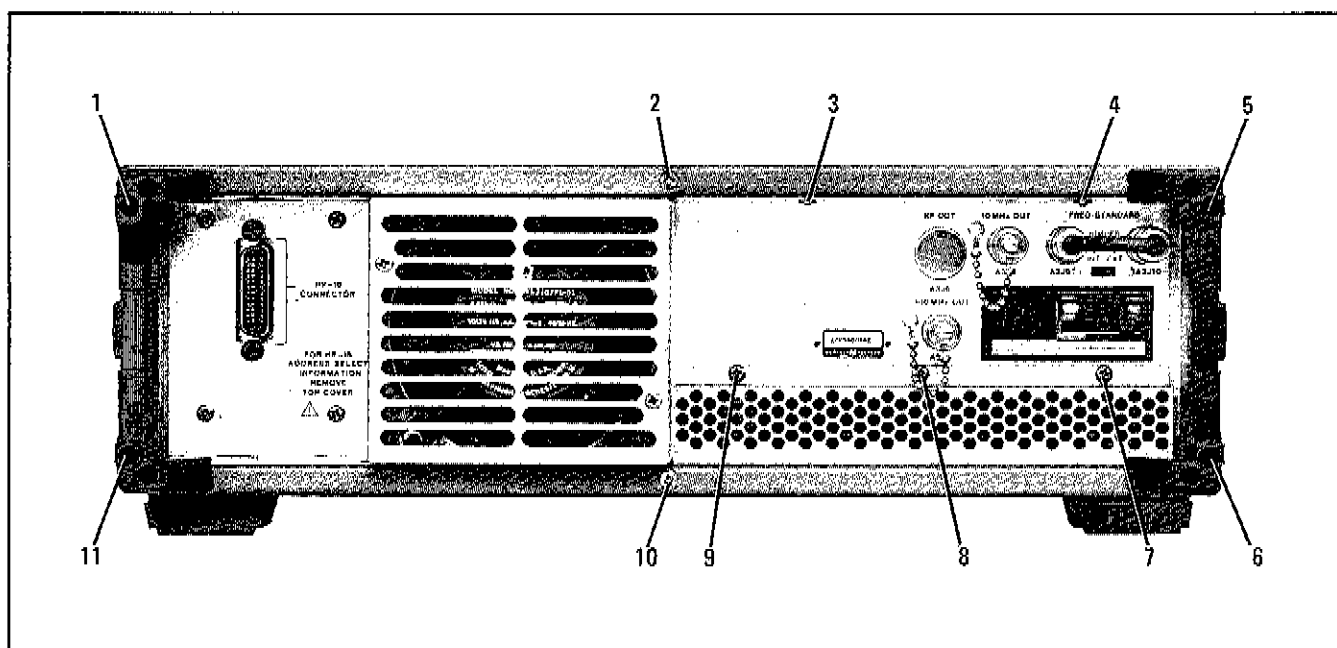

Figure 8-2. Rear Panel of the Synthesizer
- a. Remove the two plastic feet from the rear of the top cover by removing the Pozidriv screw from each foot (see Figure 8-2).
- b. Unscrew the Pozidriv screw at the middle of the rear edge of the top cover (see Figure 8-2). This is a captive screw and will cause the top cover to pull away from the front frame. Captive screw part number HP 0570-1171; clip part number HP 0510-0043.
- b. Remove the two plastic feet from the rear of the bottom cover by removing the Pozidriv screw from each foot (see Figure 8-2).
c. Unscrew the Pozidriv screw at the middle of the rear edge of the bottom cover (See Figure 8-2). This is a captive screw and will cause the front edge of the bottom cover to pull away from the front frame. Captive screw part number HP 0570-1171; clip part number HP 0510-0043.
b. Remove the two Pozidriv screws from the top of the rear frame and the three screws from over the heat sink (see Figure 8-2).